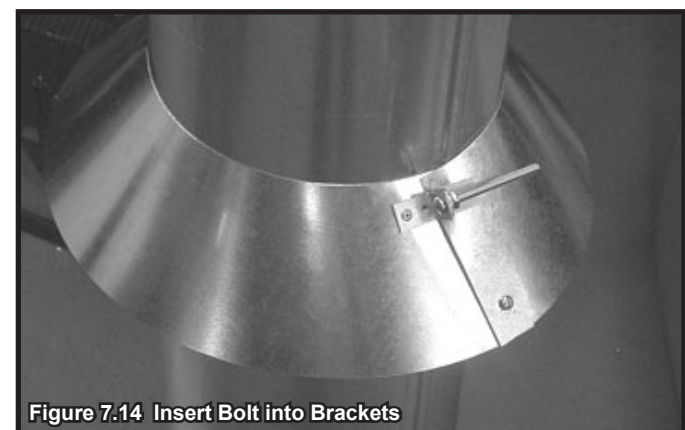

Figure 7.14 Insert Bolt into Brackets
- Slide the assembled storm collar down the pipe section until it rests on the roof flashing (see Figure 7.14).